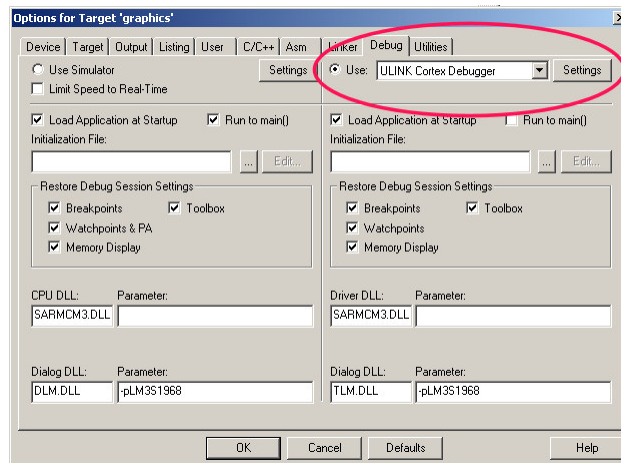

Figure 14
- 2) Configure the Serial Wire Output (Figure 14).